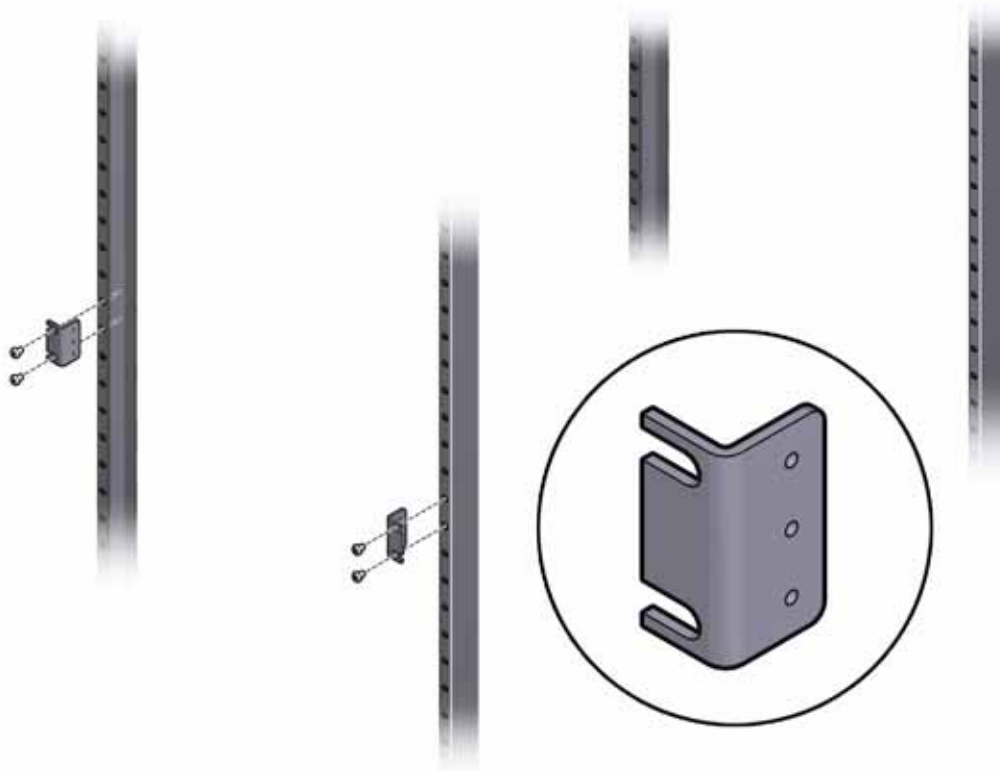

Figure 12 Attaching Rear Angle Brackets to the Equipment Rack
- Step 10** Find the rear angle brackets (500-00136-01) and use the correct rack-mounting screw to attach the angle brackets to the exterior face of the rear rack posts. The rear angle brackets must be mounted on the exterior facing side of the rear posts. See Figure 12 on page 28.
- Step 11** Orient the Fabric Director so that the rack-depth measures are pointing towards the opposite end of the equipment rack shown in Figure 12.